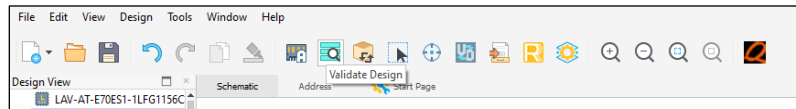

Figure 9.4. Validate Design again is any IP is updated
- Click the **Validate** button as shown in Figure 9.4. Ensure that there are no errors.